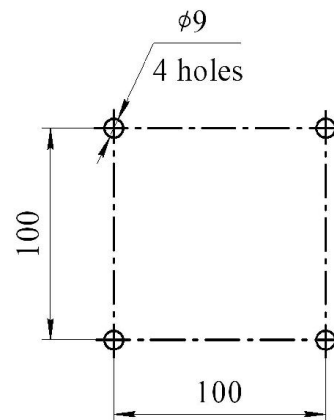

Figure 2
6.2 Fasten the MPP on the bearing surface (wall, ceiling, and floor) in any place of the volume to be protected. The MPP orientation in the volume protected can be quite different: from the horizontal position to vertical one with nozzle-sprayer down. The holes locations to fasten the MPP are shown in Figure 2.